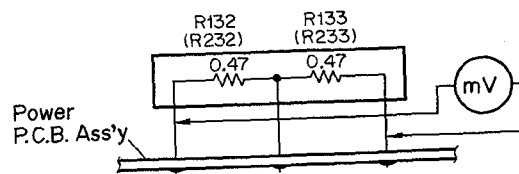
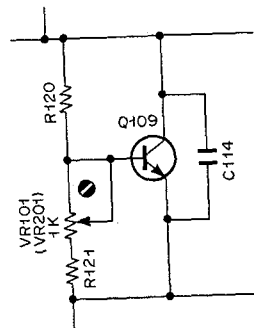

Fig. 4.3.1
Fig. 4.3.2 Idling Current Adjustment
- (1) Connect a DC Mili-voltmeter across R132, 133 (R232, 233) on the Power P.C.B. as shown in Fig. 4.3.1.
- (2) Connect an 8-ohm 60 watts or more wattage load resistor and Distortion Meter to the Speaker Terminal.
- (3) Refer to Fig. 4.3.2. Adjust VR101 (VR201) on the Power P.C.B. to obtain approx. 10 mV on the DC Mili-voltmeter.
- (4) Connect an Oscillator to the Main Amplifier Input Jacks.
- (5) Check to insure whether the distortions at 1 kHz and 10 kHz satisfy the following specifications (output wattage should be 55 watts in each frequency):